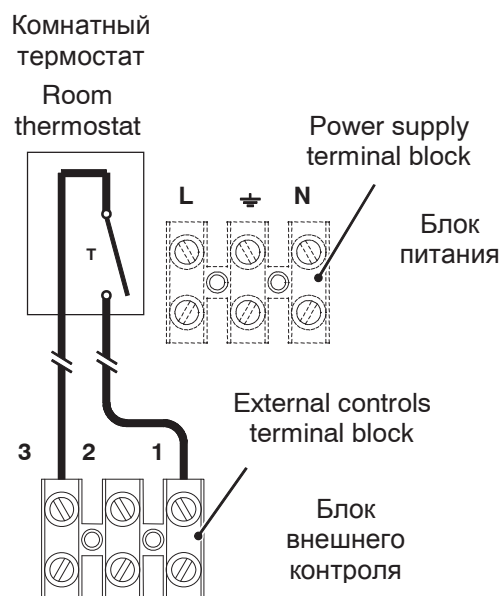

Fig. 5-15
- 15 Connect the room thermostat between terminals 1 and 3 as shown in Fig. 5-15.